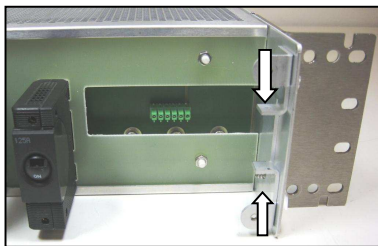

Fig. 15a – RAU Connector
- Slide RAU through the guiding pins and the opening in the circuit breaker retaining plate into its position (see Fig. 15a).